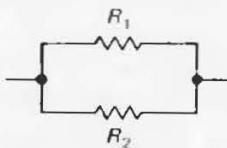

Figure 1.4
**2.** The resistance of two resistors in parallel (Fig. 1.4) is \_\_\_\_\_